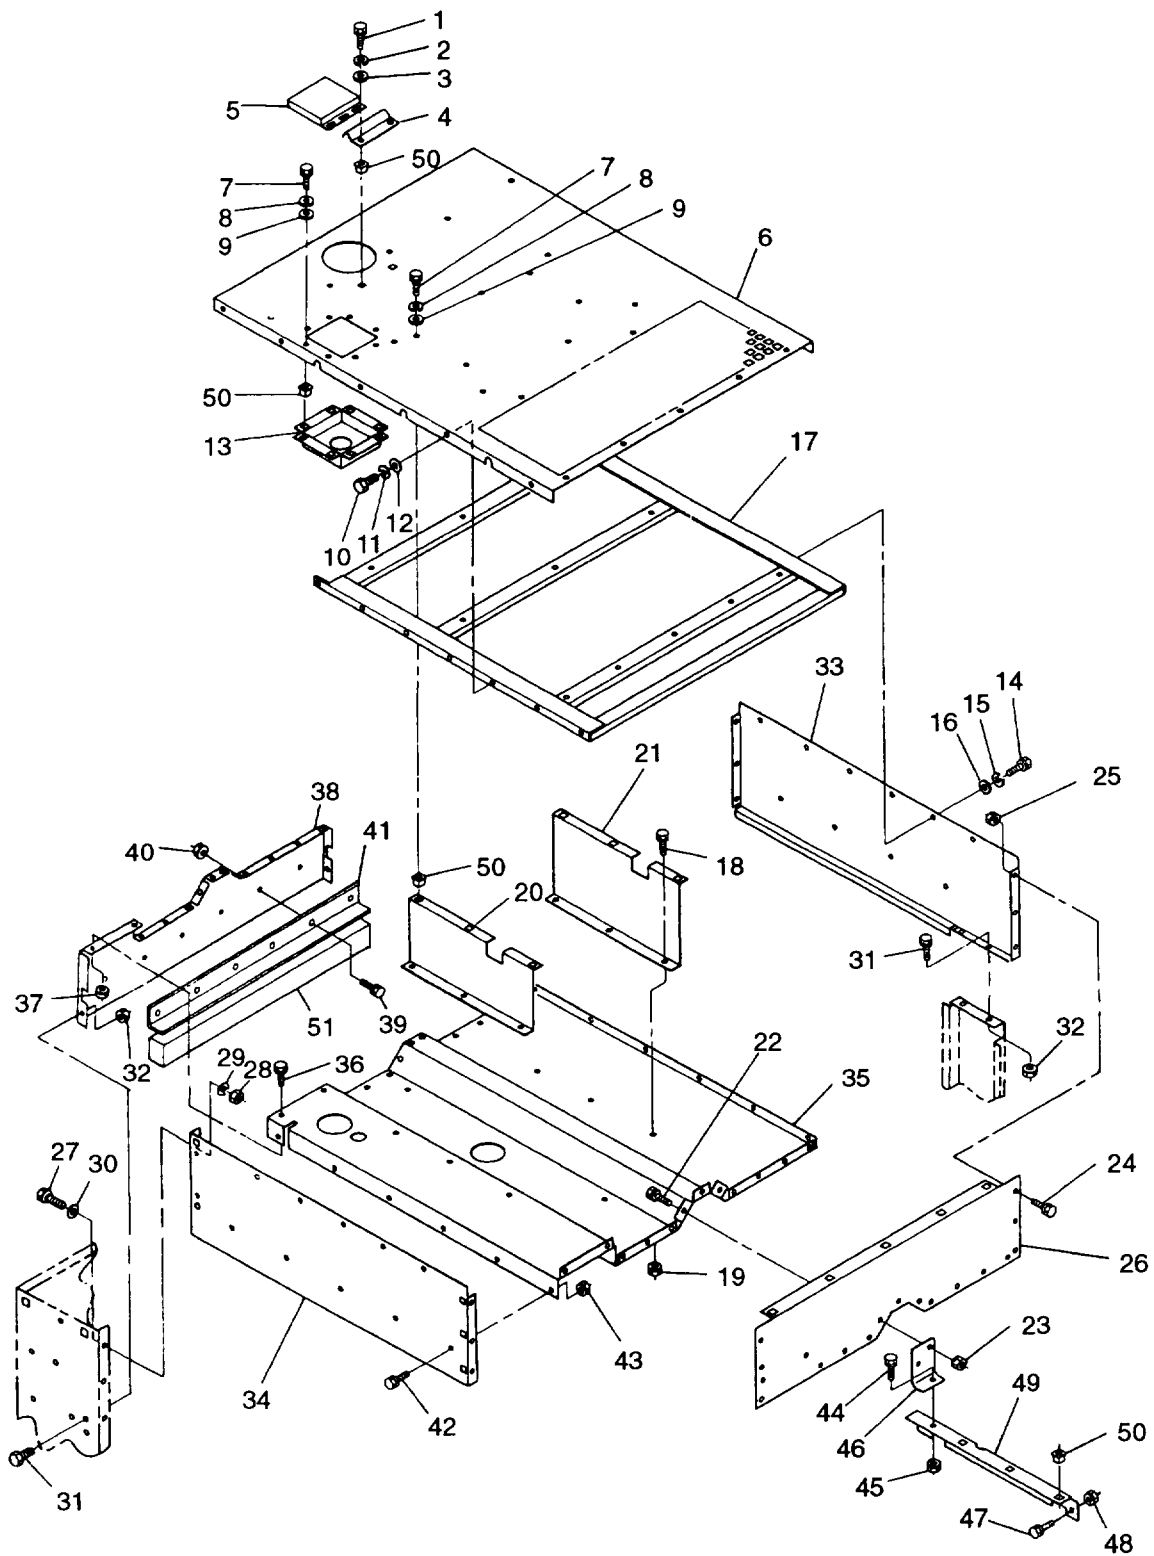

FIGURE 2-7. Generator Set Top Housing Section
- c Remove bolts (1, FIGURE 2-7), flatwashers (3), lockwashers (2), mount (4), and exhaust cover (5) from top housing panel (6).
- d Remove bolts (7 and 10), flatwashers (9 and 12) lockwashers (8 and 11), and top housing panel (6) from generator set.
- e Disconnect radiator fill hose and overflow hose from radiator fill panel (13) and remove radiator fill panel (13) from generator set
- f Remove bolts (14), flatwashers (16), lockwashers (15), and frame (17) from generator set.
- h Remove bolts (18), assembled nuts (19), and air duct channels (20 and 21).
- o. Remove bolts (47), assembled nuts (48), and angle (49) from generator set.
- c. Inspect all cage nuts (50, FIGURE 2-7) for cracking or stripped threads.
- d. Inspect seal (51) for tears, looseness, and deterioration.
- c. Repaint surfaces in accordance with TM 43-0139. (F) Refer to applicable directives.
- d. Replace any cage nuts (50, FIGURE 2-7) that are stripped or cracked.
- e. Replace loose or damaged seal (51).
- a. Install angle (49, FIGURE 2-7) in generator set with bolts (47) and assembled nuts (48).
- b. Install bracket (46) to angle (49) with bolt (44) and assembled nut (45).
- c. Install top side panels (34) and (33) on top section floor panel (35) with bolts (42) and assembled nuts (43).
- d. Install support (41) on panel (38) with bolts (39) and assembled nuts (40).
- e. Install panel (38) on top section floor panel (35) with bolts (36) and assembled nuts (37).
- f. Position top section floor panel (35), with side and front panels attached, in generator set and secure with bolts (27) and (31), flatwashers (30), lockwashers (29), nuts (28), and assembled nuts (32).
- g. Install panel (26) with bolts (22) and (24), and assembled nuts (23) and (25).
- h. Install air duct channels (20) and (21) with bolts (18), and assembled nuts (19).
- j. Install frame (17) with bolts (14), flatwashers (16), and lockwashers (15).
- k. Install radiator fill panel (13) in generator set and connect radiator fill hose and overflow hose to panel (13).